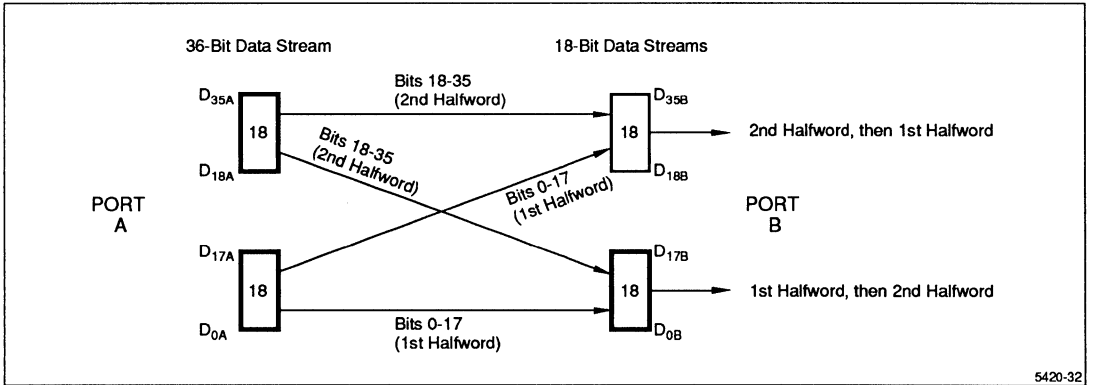
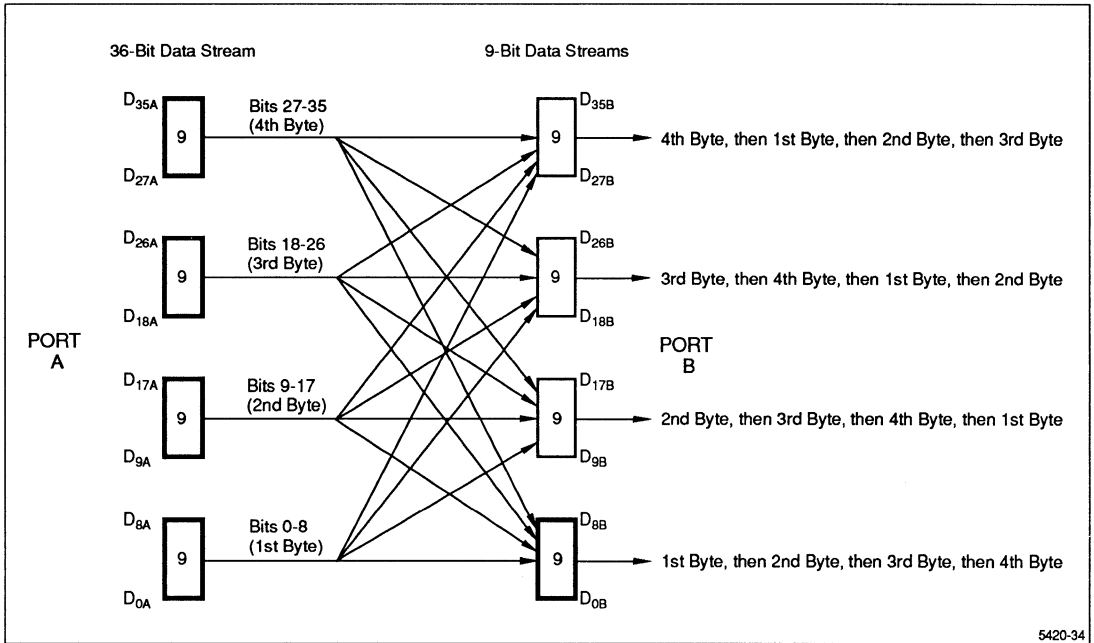

Figure 6a. 36-to-18 Funneling Through FIFO #1
Figure 6b. 36-to-9 Funneling Through FIFO #1
2. The funneling process does not change the ordering of bits within a byte. Halfwords (Figure 6a) or bytes (Figure 6b) are transferred in parallel form from Port A to Port B.